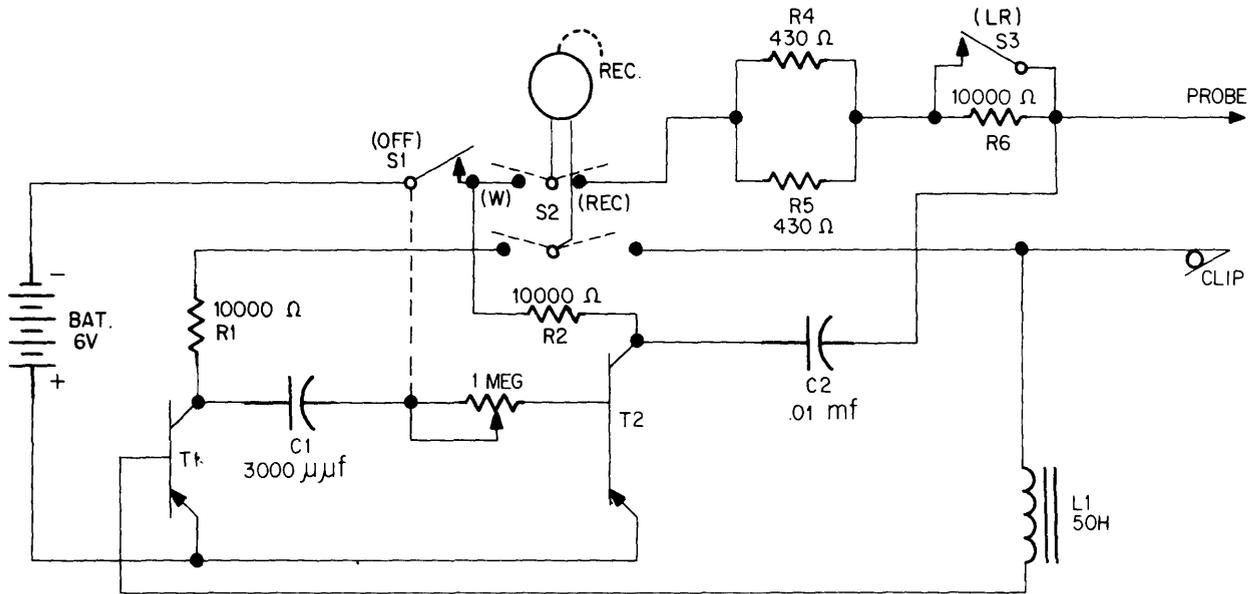

FIGURE 1
5.13 The ITE-4511 Whistler circuit is a two-transistor oscillator circuit shown schematically in Figure 1. The oscillator feedback circuit is open and terminates in the probe pick and the grounding cord. A capacitance connected between the probe pick and the grounding cord completes the oscillator feedback circuit and causes the circuit to oscillate. An audible tone is then heard in the test set receiver. Frequency of oscillation is dependent upon the value of capacitance connected between the probe pick and the grounding cord. When used as a Whistler Test Set, the grounding cord is connected to central office ground. Then, when the probe pick is connected to a conductor to be tested for crosses, the set oscillates at a frequency determined by the conductor's capacitance to ground.
7. FIGURES 1 THROUGH 4